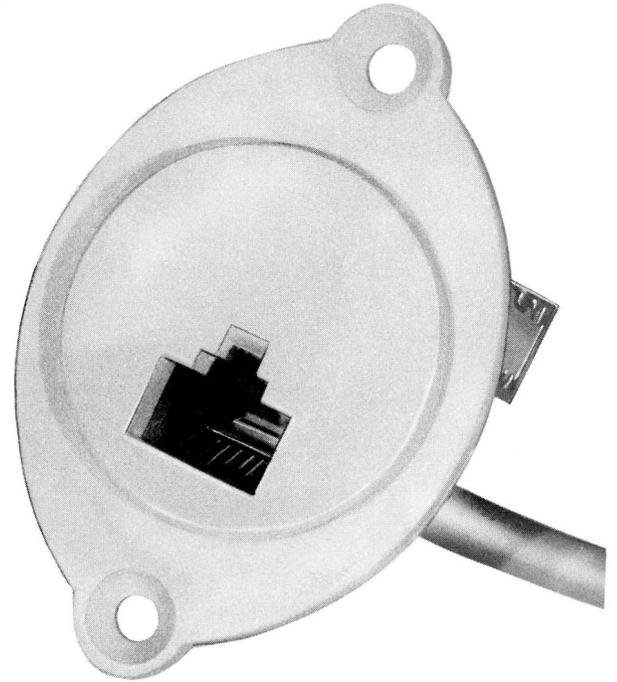
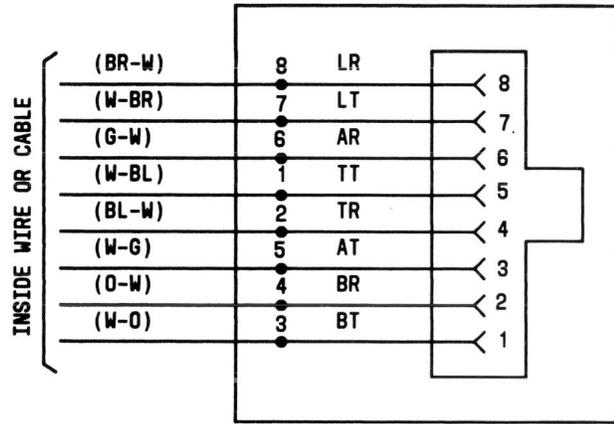

Fig. 6—102A Connecting Block
Fig. 8—102A and 103A Connecting Blocks, Schematic
2.05 This connecting block (Fig. 6 and 7) is used to connect one modular telephone set to the line. It is available in ivory only and consists of a plastic jack frame incorporating an 8-contact spring block assembly and an 8-position quick-connect field. Two plastic wire-terminating caps are also provided (see paragraph 1.03).
2.06 The 102A connecting block is intended to be flush-mounted into the wall surface using a 63B bracket or a KS-20502, L2 bracket with an 818839002 (P-88C900) faceplate, or using a 65A faceplate (see Section 461-630-100). For a double mounting arrangement, two 102A connecting blocks may be mounted on a 400A faceplate (paragraph 2.11). All mounting apparatus is ordered separately. Wiring of the 102A connecting block is shown in Fig. 8. Preferred mounting orientation of this connecting block is with the latch portion of the jack downward, as shown in Fig. 6.
2.08 The 103A connecting block is intended to be surface-mounted on a wall, baseboard, or other flat surface, using No. 6 screws, adhesive strips (D-181126 Kit of Parts, ordered separately), or magnets (D-180880 Kit of Parts, ordered separately). It will accommodate surface-dressed or inside wall wiring and is wired as shown in Fig. 8. This connecting block should be mounted with the jack opening facing downward for maximum resistance to entry of contaminants. If it must be mounted close to the floor, the jack opening should face either left or right.